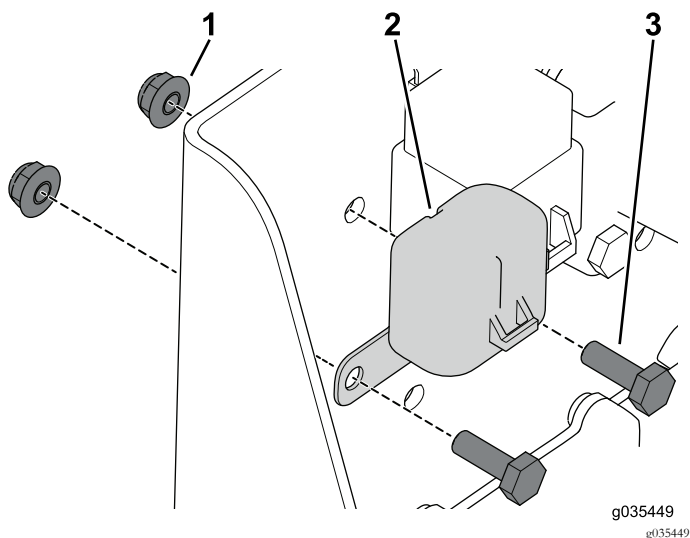

Figure 14
- Use the 2 bolts (1/4 x 3/4 inch) and flange nuts to secure the fuse cap (Figure 14).